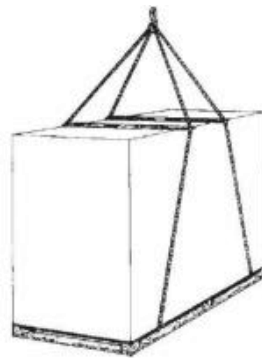

Figure 1
- (1) The handling and lifting plan of the unit shall be prepared in advance, which shall include the unit arrival date, size, weight, handling path, reserved hole position and lifting equipment.
- (2) When lifting the unit, do not be careless, keep a distance, to ensure their own safety, prohibit violent handling.
- (3) When lifting and transporting, the weight of the unit must be considered, and the cloth belt should be supported as a hanger to prevent the damage to the plywood carton, and maintain the horizontal and vertical state as far as possible, and prohibit the tilt of the machine to be more than 30 degrees Angle.
- (4) When lifting and transporting units, the unit shall avoid scratching or deformation, and place protective pads or other supports at the contact parts between the belt and the machine. Refer to the picture below (Figure 1)